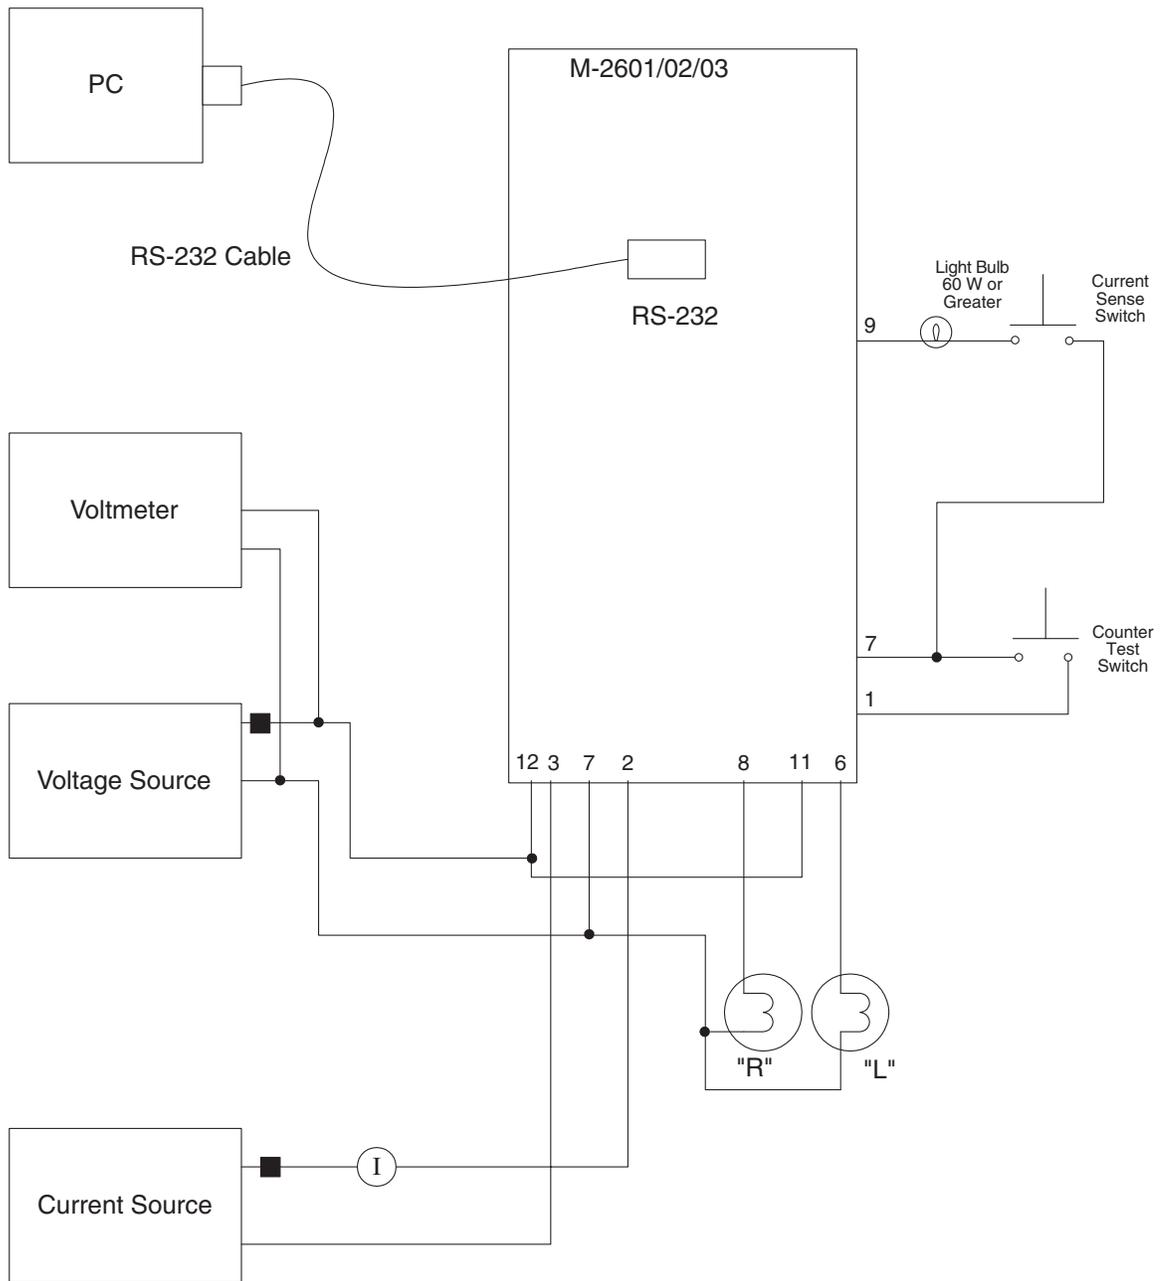

Figure 6-1 External Connections for Test Procedure
1. Connect the equipment as shown in Figure 6-1.